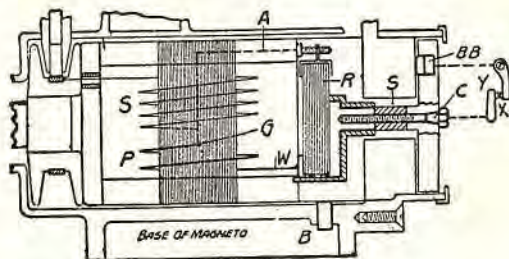
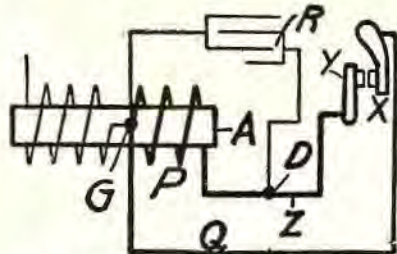

Fig. 8. Armature-type magneto armature.
Fig. 11. Simple primary circuit of Dixie. No brushes or contacts except breaker points.
The armature-type magneto (Fig. 8) has a rotating element carrying windings, a laminated core, a condenser, a collector ring, etc.
Fig. 8 shows the usual primary circuit in the armature-type machine, and Fig. 11 the same circuit in the Dixie. (A) (Fig. 8) denotes the revolving armature on which is wound the primary winding (P) and the secondary (S). Grounding brushes (B) and (BB) are necessary to insure a good contact between the grounded end (G) of the primary and the breaker point (X), the latter being positioned in the breaker mechanism which is movable for timing purposes. It will be seen that the free end (W) of the primary connects to the condenser (R), and attention is called to the fact that this condenser is built into the armature and revolves with it, and the armature must be disassembled to get it out. The shaft (S) is made hollow, and a bolt (C) is carefully insulated where it passes through. This bolt connects the free end of the primary and the condenser to the insulated point (Y) of the breaker which revolves as a unit with the armature.
In the Dixie, the core of the coil (A) (Fig. 11) is stationary, and the inner end (G) of the primary winding (P) is grounded on the core. (Q) indicates the metal frame of the machine, which is put together with screws, so that there are no brushes or sliding contacts. Therefore brushes (B) (BB) (Fig. 8) are eliminated.